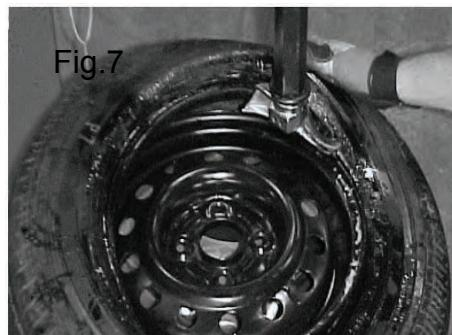

Fig.7
5. Move the tire so that the bead passes below the front section of the mounting head and is brought up against the edge of the rear section of the mounting head. (Fig.7)